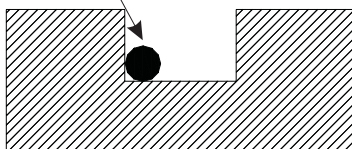

Figure 1
- Apply a bead of Loctite 515 (1/8" dia. max) to the entire circumference of the bottom I.D. of the O-ring groove as shown in Figure 1.